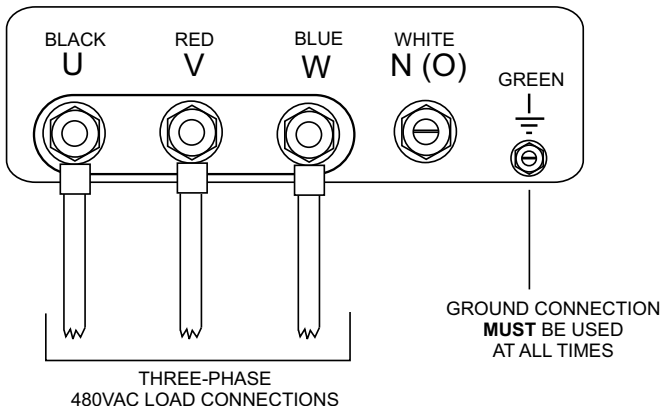

Figure 33. UVWO Terminal Lugs 3Ø-480 Connections
2. Connect the load wires to the UVWO terminals as shown in Figure 33.